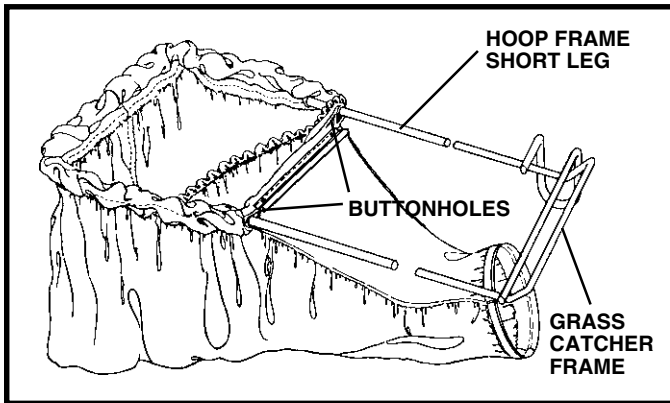

FIG. 4
- Continue pushing the grass catcher onto the hoop frame until the grass catcher is completely on the short leg of the hoop frame. Spread grass catcher evenly around the hoop frame as shown in Fig. 4.
- Attach the grass catcher frame to the hoop frame as shown in Fig. 4.